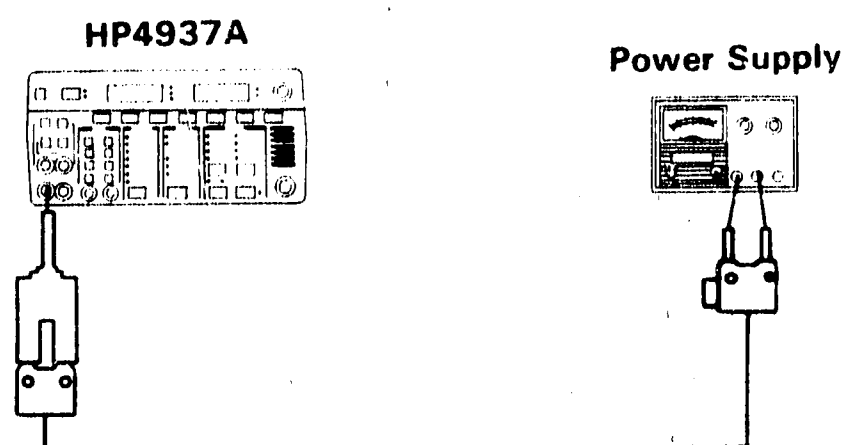

Figure 4-16. *E/M and Originate Current Detector Test*
1. Connect equipment as shown in figure 4-16 with + side of power supply output to the neutral side of the cable.